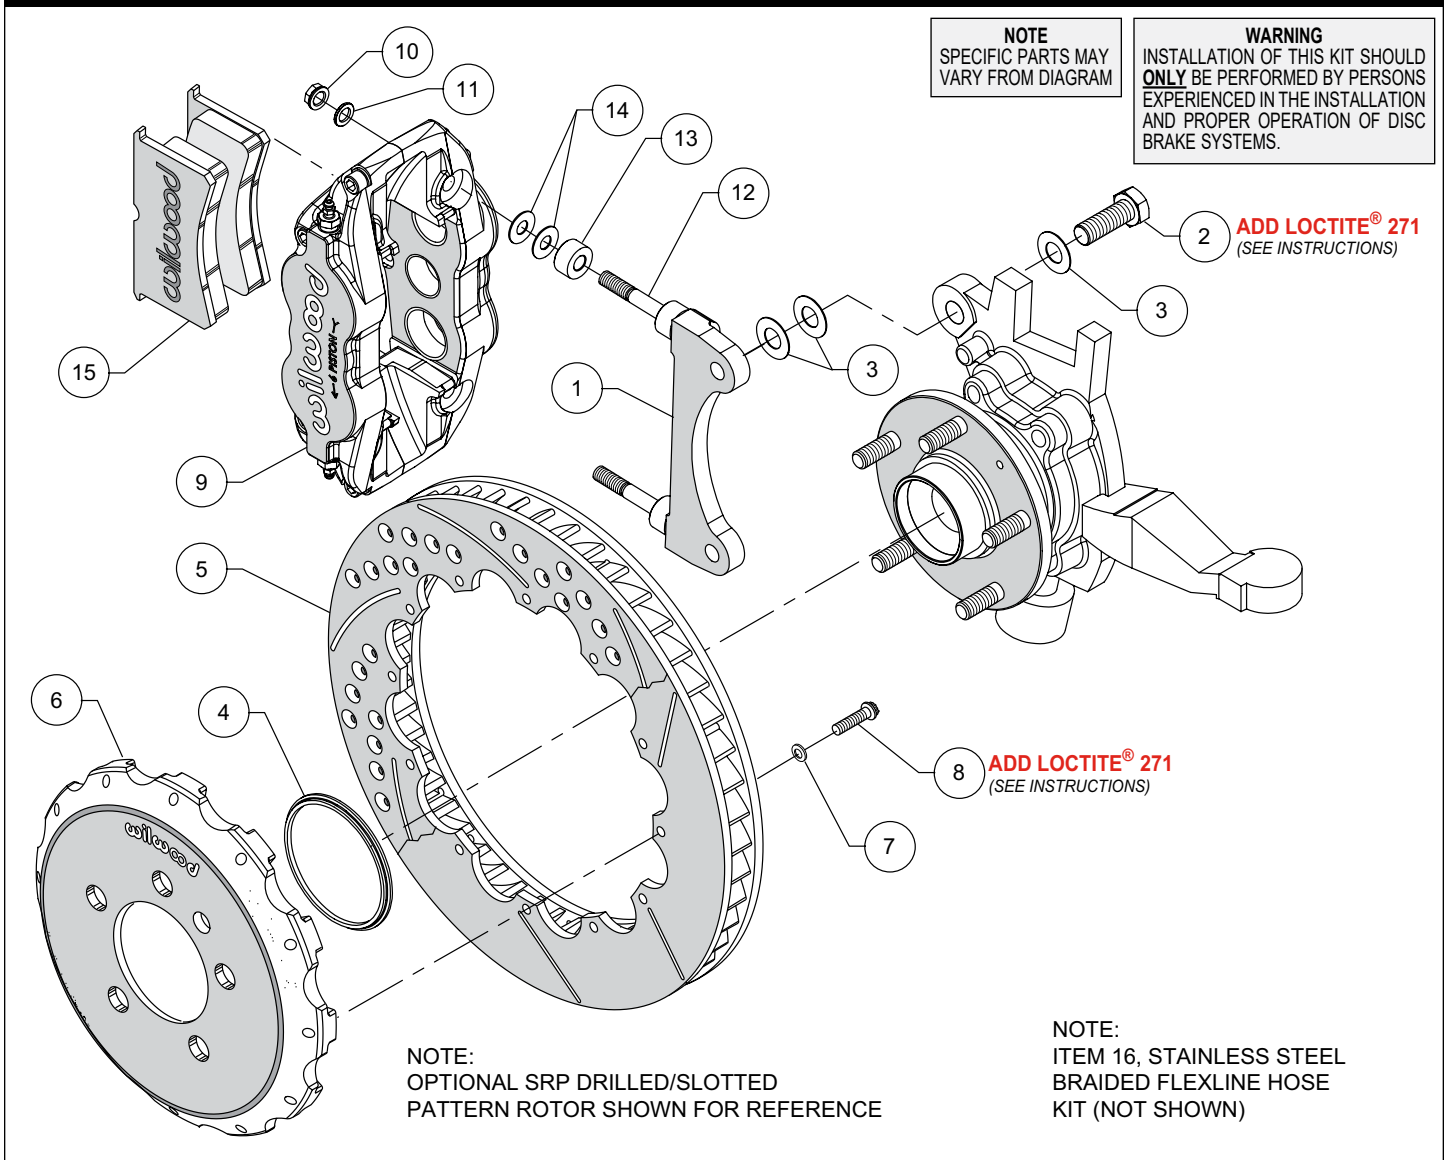
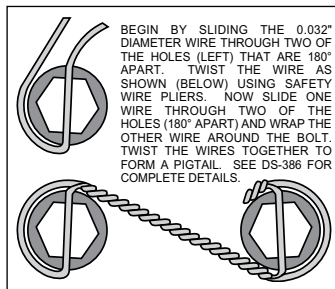

Figure 1. Typical Installation Configuration
Figure 3. Safety Wire Diagram
Assembly Instructions (numbers in parenthesis refer to the parts list and Figure 1 on the preceding pages):
- The caliper mount bracket (1) should initially be installed with clean, dry threads on the mounting bolts. Orient the bracket as shown in Figure 1 and Photo 1, and install using shim washers (3) and bolts (2). Initially place two shims (3) on each bolt between the bracket and upright, Figure 1. Temporarily tighten the mounting bolts. **NOTE: The bracket must fit squarely against the mount bosses on the upright.** Inspect for interference from casting irregularities, machining ridges, burrs, etc. Later, after the caliper alignment has been checked, the mount bolts will be secured using red *Loctite*® 271.
- Orient the rotor (5) and the hat (6) as shown in Figure 1 and Photo 2. Attach rotor to hat using bolts (8) and washers (7). Apply red *Loctite*® 271 to the bolt threads and torque to 155 in-lb using a criss-cross pattern. For an added measure of security, the bolts may be safety wired using standard 0.032 inch diameter stainless steel safety wire as shown in Figure 3. Please refer to Wilwood's data sheet DS-386 (available at www.wilwood.com/Pdf/DataSheets/ds386.pdf) for complete safety wire installation instructions.
- Slide the rotor registration adapter (4) onto the axle register on the axle hub with the smaller O.D. facing outward, Photo 3. Slide the hat/rotor assembly onto the axle hub. **NOTE: The hat must fit flush against the axle hub flange or excessive rotor run out may result.** Install three lug nuts (finger tight) to keep the hat/rotor assembly in place while continuing with the installation.
- NOTE: This kit contains distinct right and left hand calipers that must be mounted in a specific direction, as described below.** Initially place two .035" thick shims (14) and spacer (13) on each stud (12) as shown in Figure 1 and Photo 4. Mount the caliper (9) onto the bracket (1) using lock nuts (10) and washers (11), Figure 1. Ensure that the caliper is mounted so that the largest pistons are at the rotor exit end of the caliper, in relation to the direction of rotor rotation. Temporarily tighten the lock nuts and view the rotor through the top opening of the caliper. The rotor should be centered in the caliper, Photo 5. If not, adjust by adding or subtracting shims (3) between the bracket and the upright. Always use the same amount of shims on each of the two mounting bolts. Once the caliper alignment is correct, remove the bracket mounting bolts one at a time, apply red *Loctite*® 271 to the threads, and torque to 77 ft-lb.